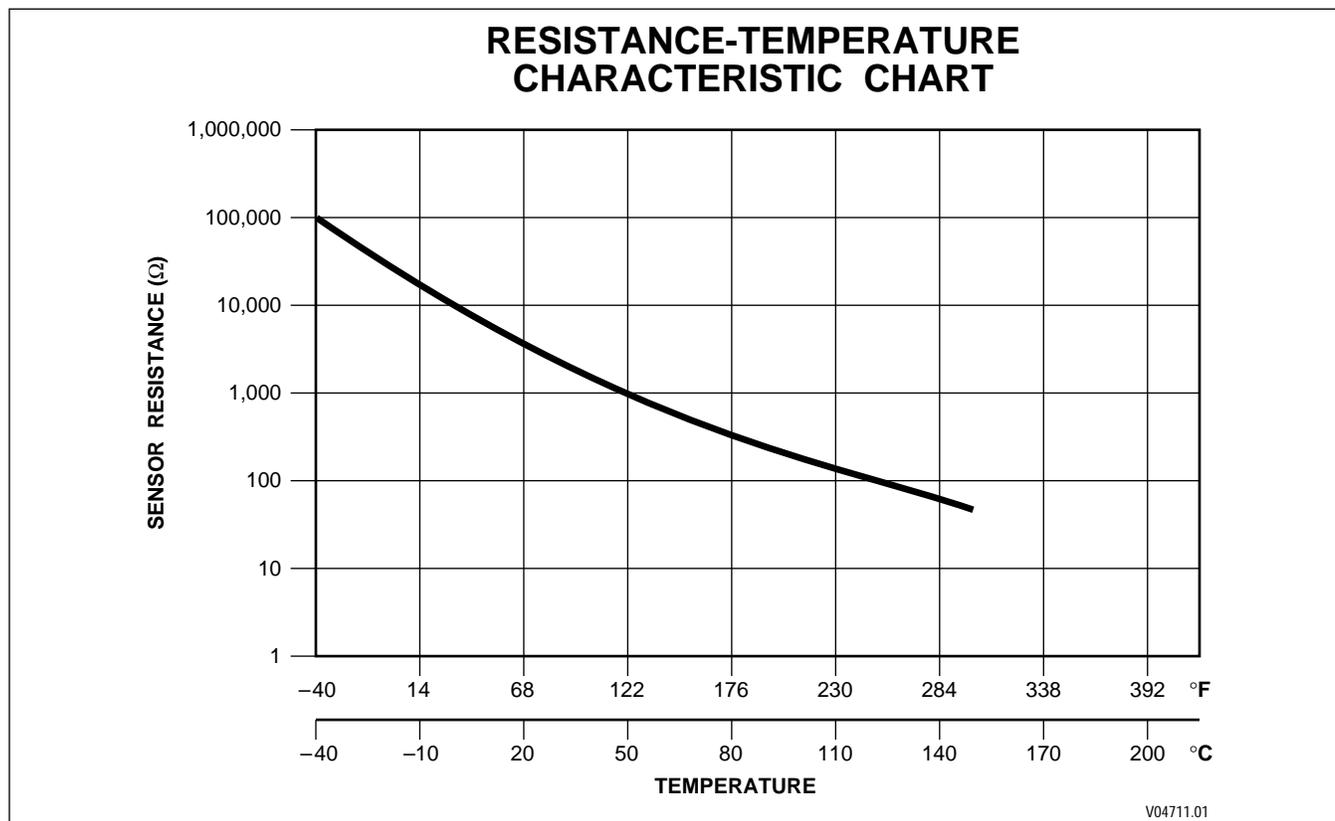

Figure 5-6. Temperature Sensor Chart
2. If the fluid is not hot when the code is produced, remove the transmission “T” harness connector at the ECU and the transmission. Check the fluid temperature sensor wiring for opens, shorts, and shorts-to-ground. Compare the resistance readings of the sensor and the actual temperature shown on the gauge with the chart information in Figure 5-6. If wiring problems or a great difference between temperature and resistance compared with the chart are found, remove the lockup valve body cover and replace the temperature sensor which is part of the internal lockup harness (refer to the Service Manual for the transmission being checked). If wiring problems are found, repair or replace as necessary.